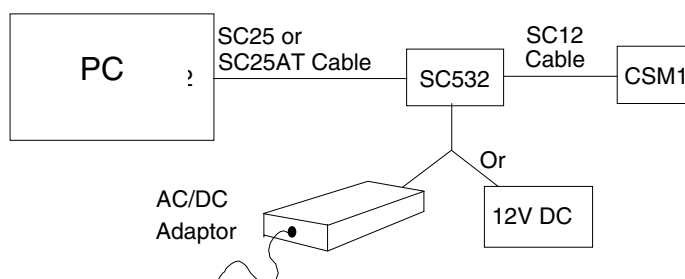

Figure 2 Connection of CSM1 to PC
4. Connect the CSM1 to your PC. To do this you need an SC532 interface. Connect the SC532 to a free serial (COM) port on your PC using either an SC25 or SC25AT cable, which plugs into the 25-way connector on the SC532. Make sure the SC532 is plugged into a power source and the PC is running. Plug the SC12 cable into the 9-way port of the SC532. (See Figure 2.)